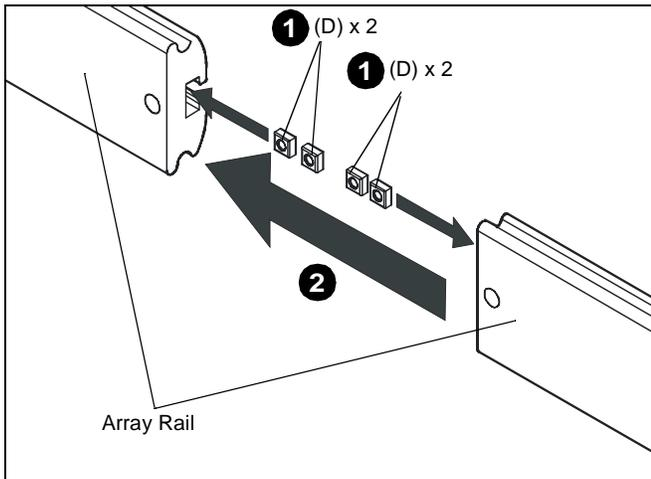

Figure 2
1. Insert two square nuts (D) into each rail end. (See Figure 2)
2. Slide rails together until rail ends meet. (See Figure 2)